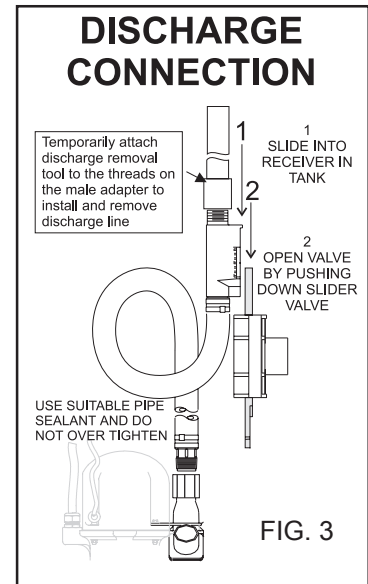

FIG. 3
5a. Attach the discharge hose to the anti-siphon check valve. Use pipe sealer on threads to ensure leak tightness. (Fig. 3)
7a. Attach discharge installation tool on male adapter. (Figs. 3 and 4)
9. Rotate discharge hose and male adapter to create a loop or coil. Slide male adapter into slide face receiver until it seats. Push down on slider valve assembly to open. (Fig. 3)